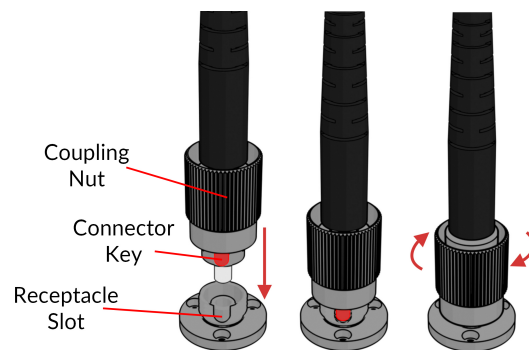

Figure 2.1: FC connector, Fiber Installation
3. With an FC connector, the connector key must be oriented to enter within receptacle slot to ensure good connection (Fig. 2.1).